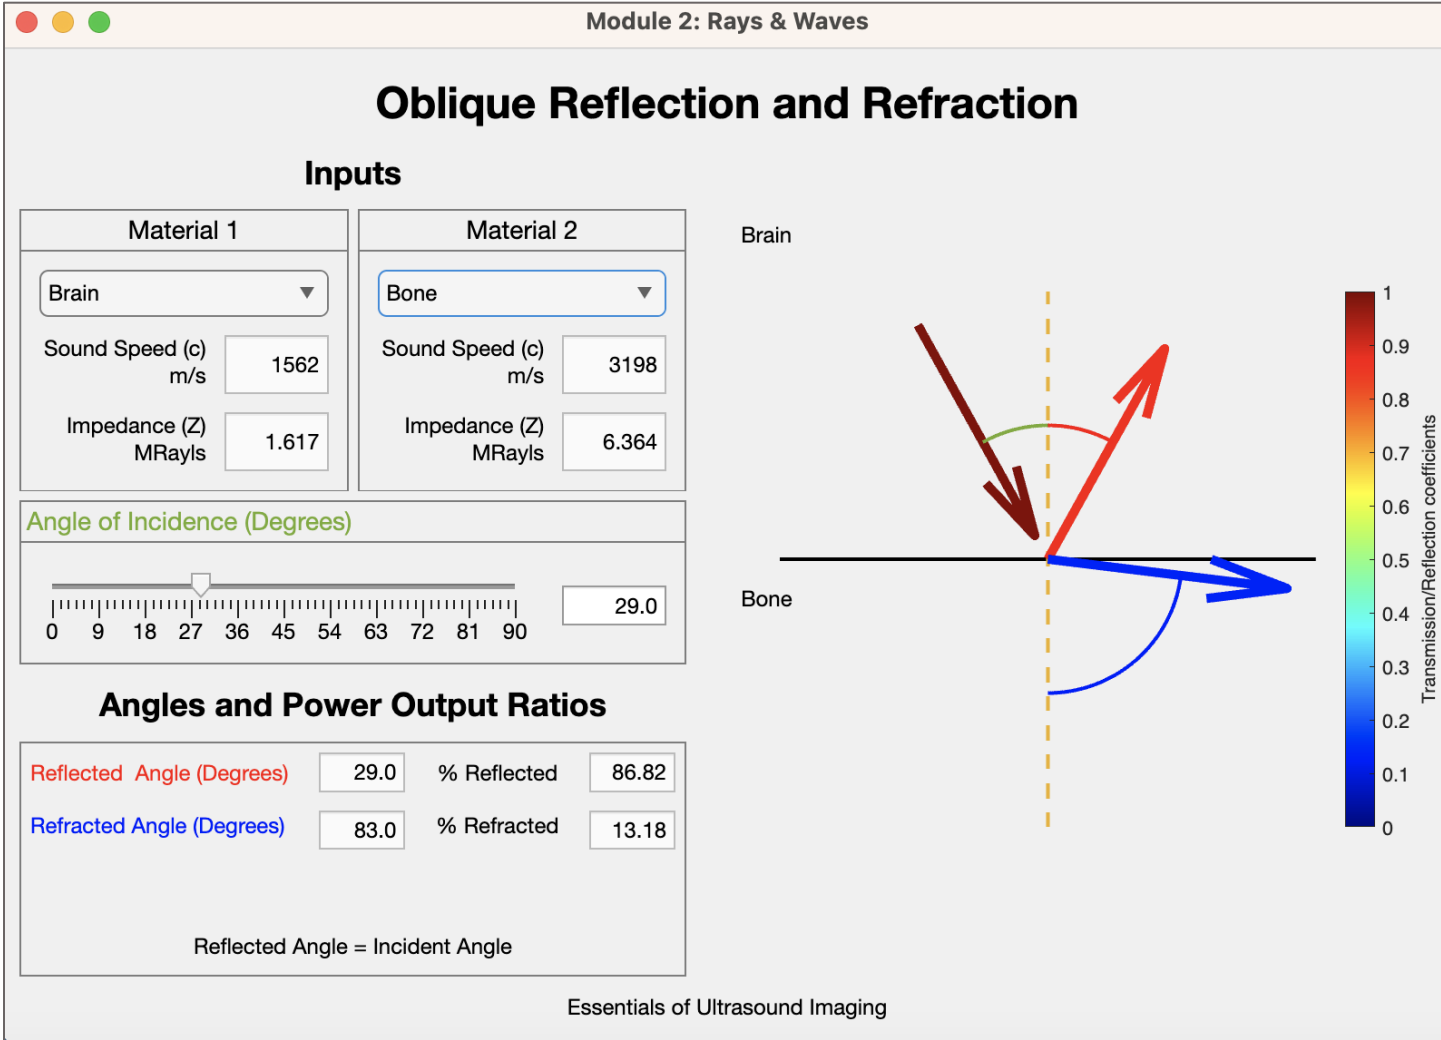

Figure 17: Oblique Refraction Simulator GUI
1. To start with, use the medium input values shown in Figure 17 to define the media. Note that the Material 1 Type corresponds to the top layer and the Material 2 Type corresponds to the bottom layer of the layered medium. Once a medium is selected, its speed of sound and impedance values are displayed.